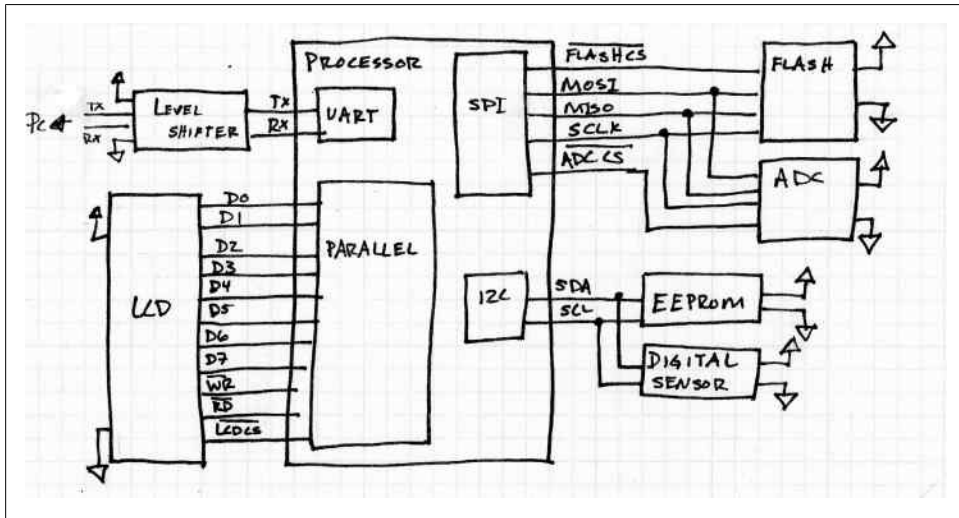

Figure 6-11. Comparing peripheral communication methods
Figure 6-11 shows a possible debug pathway from your computer to your processor. While RS-232 defines eight signals (and ground), transmit (TX) and receive (RX) are the most important signals. You can interface your embedded system with your computer with those alone. Note that both systems have a TX and RX so you'll need to swap them to connect the TXs to RXs. This may be done in your cable (using a null modem cable) or on your board (in which case you need a standard or straight through serial cable).
tional to the cost to make the chip). Figure 6-11 shows a comparison in the number of lines needed for some of the most popular buses and common peripherals.